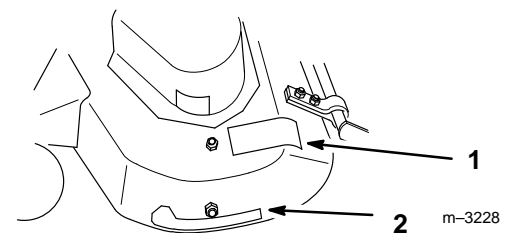

Figure 10
2. Remove backing paper and apply decal to left top of mower as shown (Fig. 10). Smooth from center to edges to remove air bubbles.
3. Install Recycler[®] decal to left side of mower as shown (Fig. 10).